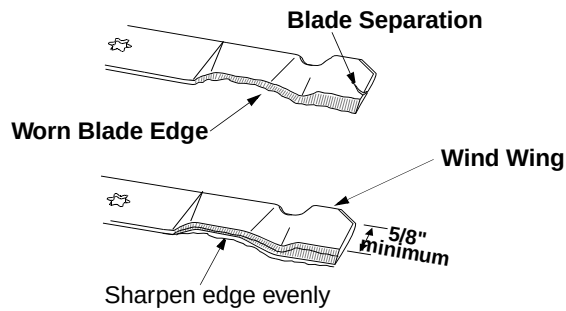

Figure 17
- To properly sharpen the cutting blades, remove equal amounts of metal from both ends of the blades along the cutting edges, parallel to the trailing edge, at a 25° to 30° angle. See Figure 17.
IMPORTANT: If the cutting edge of the blade has already been sharpened to within 5/8" of the wind wing radius, or if any metal separation is present, replace the blades. See Figure 17.